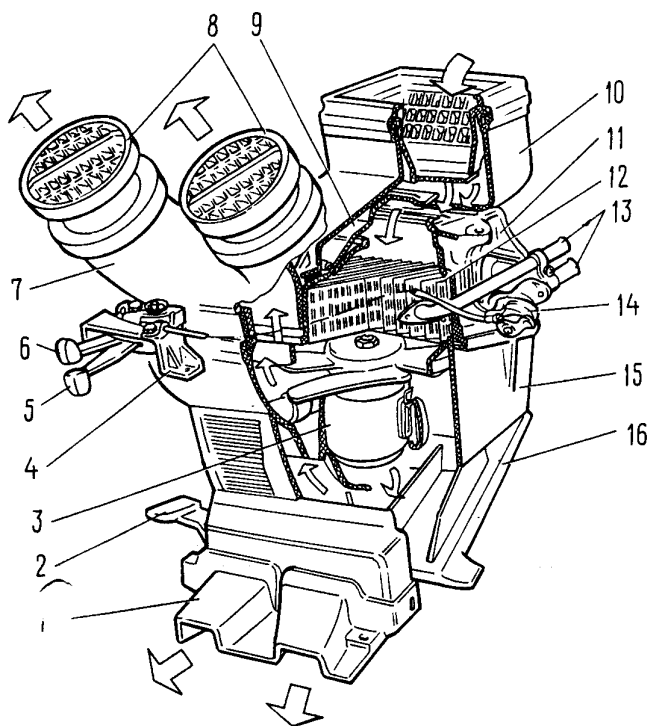

Fig. 8-32. Body Heater:
- shift control lever 6 (Fig. 8-32) of heater cock 14 all the way to the right and drain the engine cooling system;